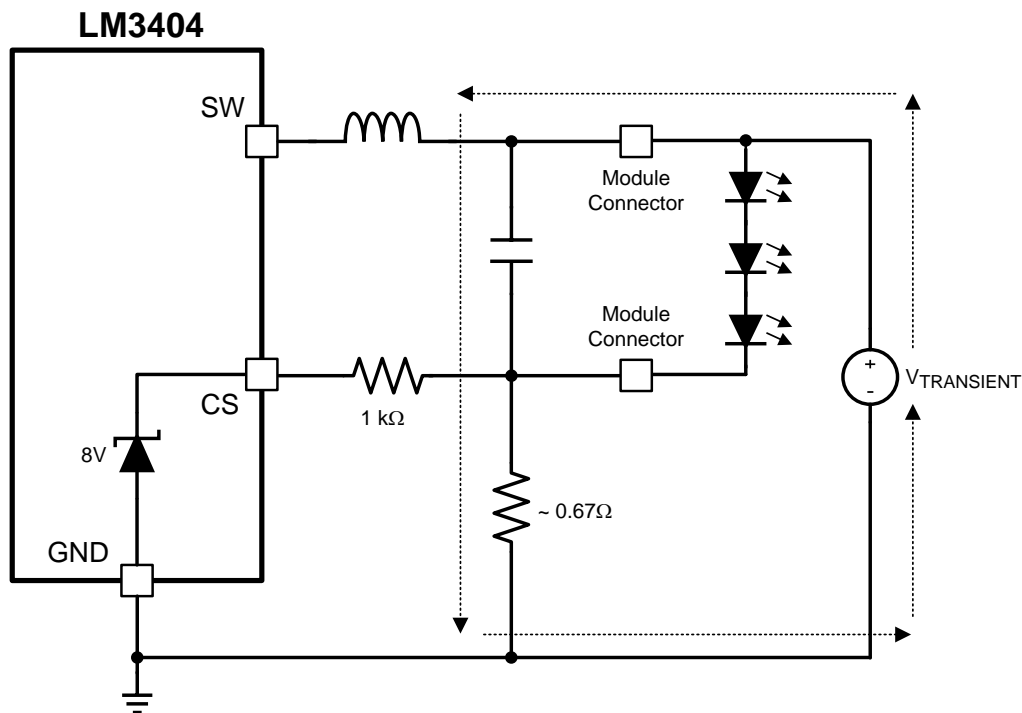

Figure 25. CS Pin, Transient Path with Protection
From measurements, we know that the 8V ESD structure on the CS pin can typically withstand 25mA of direct current (DC). Adding a 1kΩ resistor in series with the CS pin, shown in Figure 25, results in the majority of the transient energy to pass through the discrete sense resistor rather than the device. The series resistor limits the peak current that can flow during a transient event, thus protecting the CS pin. With the 1kΩ resistor shown, a 33V, 49A transient on the LED return connector terminal could be absorbed as calculated by: